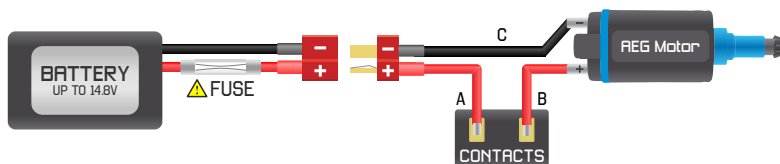

FIG 1. STANDARD AEG WIRING SCHEME
**a) Installation of NanoHARD without replacement of wires.** Using this method, the original wiring is kept intact, and the connections are modified. Referencing Fig 1., de-solder A wire from the one of the trigger contacts and then solder it to the B wire. It does not matter which wire you disconnect from the trigger switches, just join the two wires together at one terminal. In the place of the A wire, solder the additional single signal wire (No. 04 – provided in the kit). The GATE wire is very thin because it handles very low current and it is only used for switch-detection. Now connect the device between the battery and AEG. Do not forget about the signal wire. Connect it to the top pin.